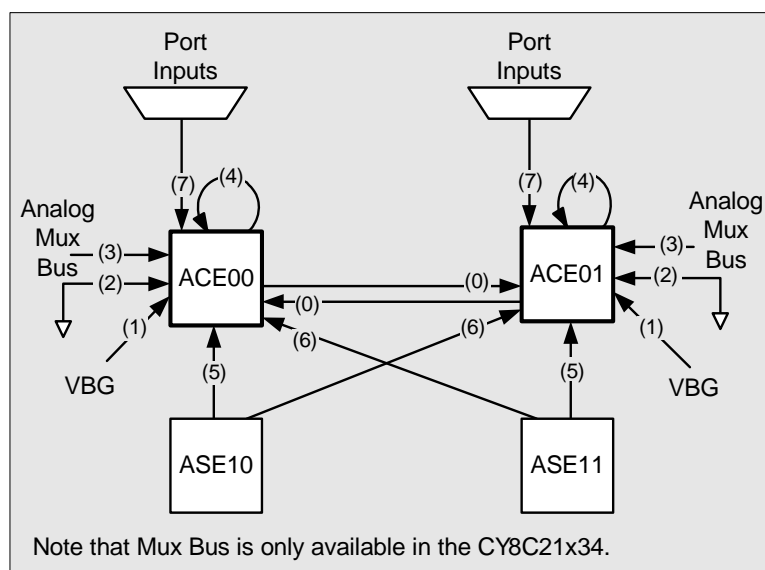

Figure 24-5. NMux Connections for the CY8C21x34, CY8C21x34B, CY8C21x23, CY7C603xx, and CYWUSB6953 PSoC Devices
The NMux is an 8-to-1 mux which determines the source for the inverting (also called negative) input of Continuous Time (CT) PSoC blocks. These blocks are named ACE00 and ACE01 in the CY8C21x34, CY8C21x34B, CY8C21x23, CY7C603xx, and CYWUSB6953 PSoC devices. More details on the CT PSoC blocks are available in this chapter, in the section titled “Continuous Time PSoC Block” on page 437. The NMux connections are described in detail in the ACExxCR1 register on page 191, bits NMux[2:0]. The numbers in Figure 24-5, which are associated with each arrow, are the corresponding NMux select line values for the data in the NMux portion of the register. The call out names in the figure show nets selected for each NMux value.